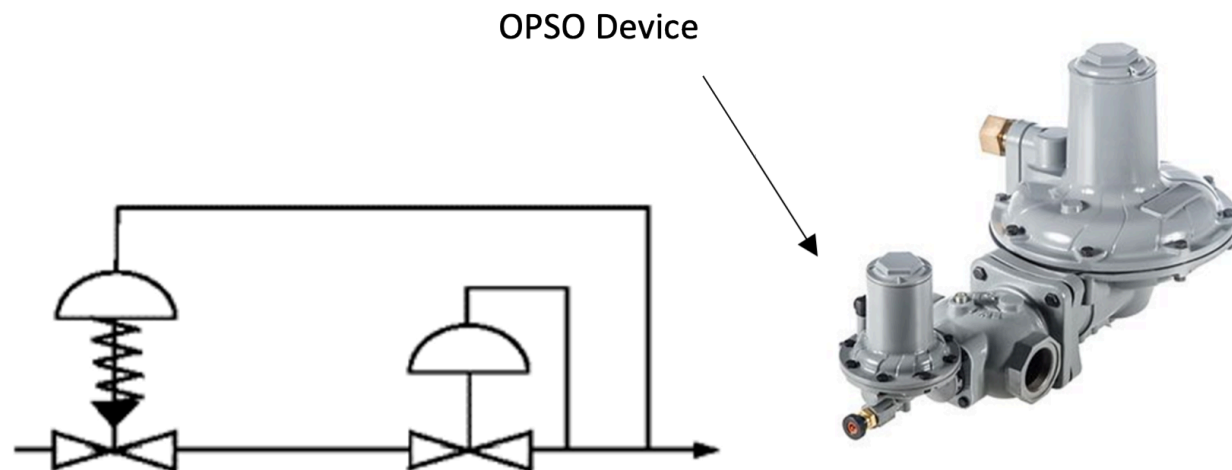

Figure 14. Overpressure shut-off
The shutoff device also accomplishes overpressure protection by containment. If an overpressure condition exists, the gas is shut off completely until the cause of the malfunction is fixed and the device is manually reset. The schematic in figure 14 indicates a spring loaded shutoff device sensing the pressure downstream of the regulator.
- Figure 14. “Overpressure shut-off (<https://www.emerson.com/en-us/catalog/fisher-csb600>)” from Emerson is used for educational purposes under the basis of fair dealing.